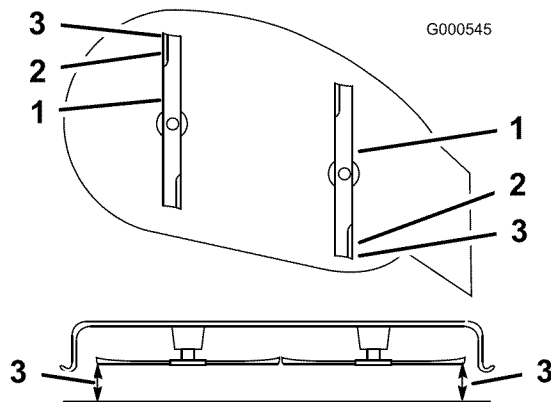

Figure 43
5. Set the height-of-cut at position **3** [3 inch (76 mm)] and carefully rotate the blades so they are facing front to rear (Figure 43).
6. Measure from the tip of the front blade to the flat surface and the tip of the rear blade to the flat surface (Figure 43). If the front blade tip is not 1/16-5/16 inch (1.6-7.9 mm) lower than the rear blade tip, adjust the front locknut.
is 1/16-5/16 inch (1.6-7.9 mm) lower than the rear blade tip (Figure 43).